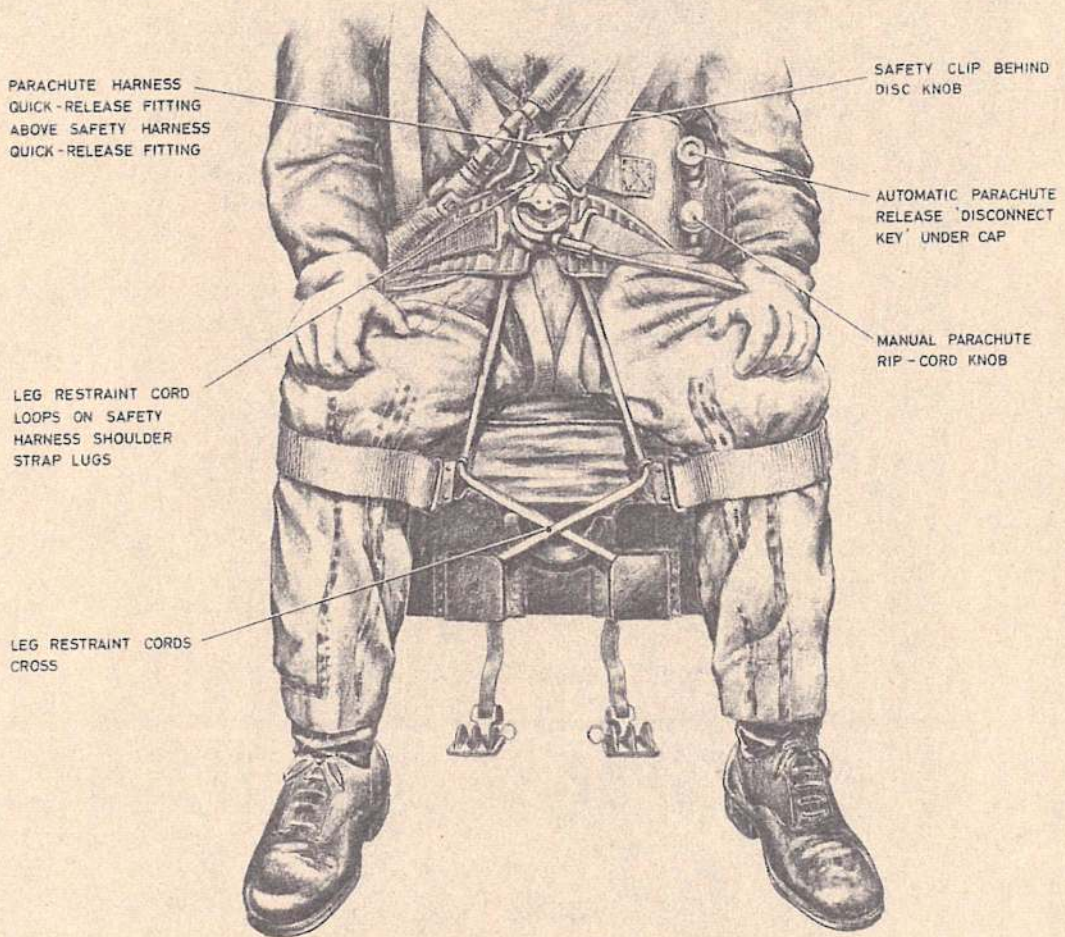

Fig. 3. Assembly of leg restraint cords and harness
29. The strapping in procedure for the pilot is as follows: refer to fig. 3, 4 and 5 for detail as necessary:—